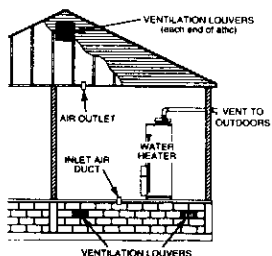

Figure 6
1. When directly communicating with the outdoors, each opening shall have a minimum free area of 1 square inch per 4,000 BTU per hour of total input rating of all equipment in the enclosure. (See Figure 6.)